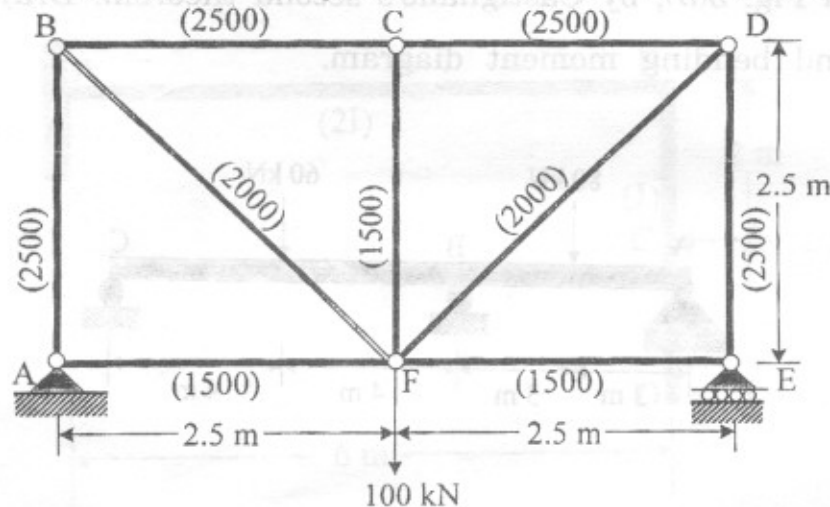

Fig. 5
5. The truss shown in Fig. 5 is loaded with 100 kN load acting at the centre of the lower chord. The sectional areas in mm^2 are marked alongside of each member. Determine the values of horizontal and vertical displacement of joint D. Take $E = 200 \text{ kN/mm}^2$. [16]